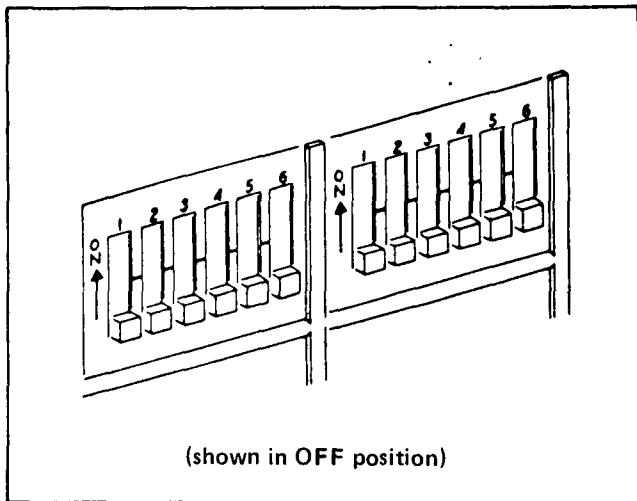
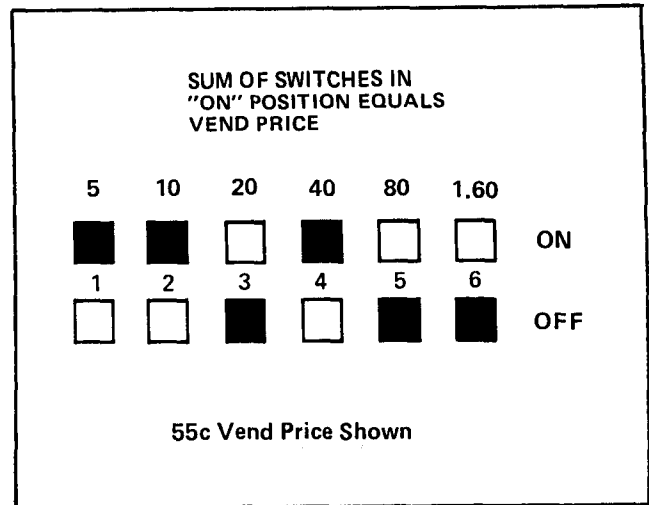

FIGURE 12
FIGURE 13
1. On the front of the Coin Mechanism are ten groups of binary price setting switches, each group consisting of six switches. See Figure 12. Each group of switches determines one price setting. The vend price for each group of switches is equal to the sum of switches in the "ON" position. See Figure 13. Set the vend prices in the Coin Mechanism as follows:
- a. Move all 6 switches of the desired price setting Switch group to the "OFF" position. See Figure 12.
- b. Move the appropriate switches to the "ON" position until the SUM of the switches in the "ON" position is equal to the desired vend price. See Figures 12 and 13.